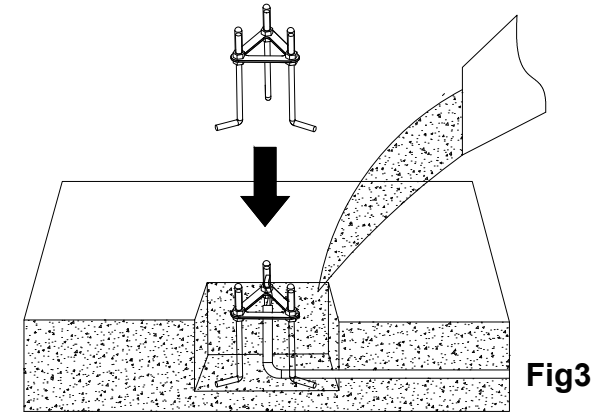
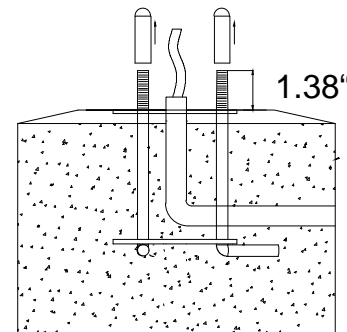

Fig3
Fig4
- Prepare site. Get the anchor bolt carrier assembled as Fig3 and use it to determine placement of anchor bolts in concrete.
- Sink the anchor bolts into the concrete as Fig3 leaving the threaded portion 1-1/2~2" as Fig4 above the cement . And remove the silicon caps.